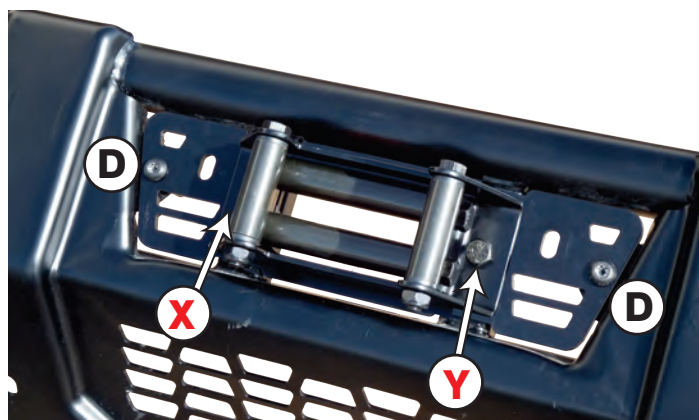

Figure 6.
- Install replacement grill to bumper as shown in **Figure 6** using original Torx screws (D).
- Install your fairlead to grill & bumper assembly as shown in **Figure 6**, using hardware provided with your winch. Pass bolts (X & Y) through fairlead, grill and bumper frame rails, then tighten.